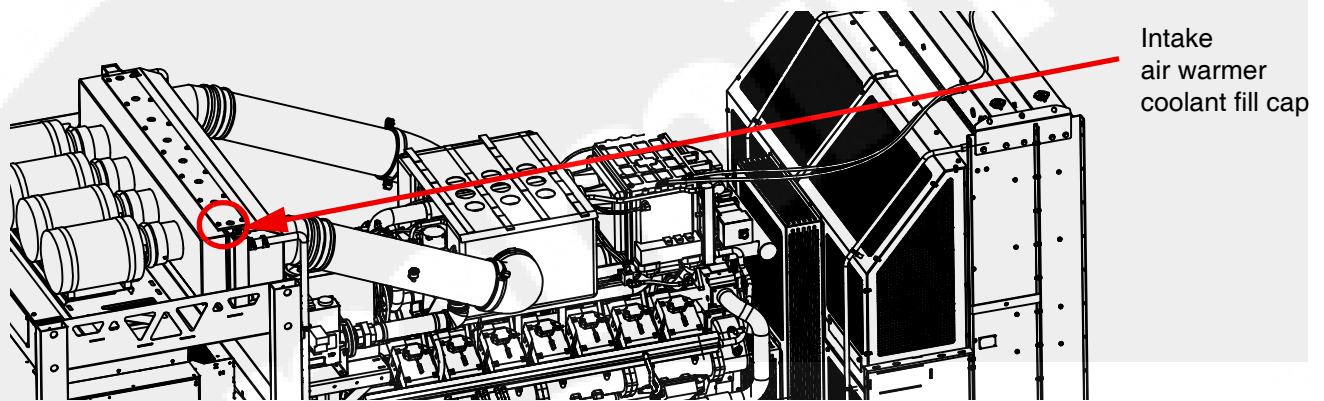

Figure 7-10 Intake air warmer coolant fill cap (GenSet right side)
2. Twist the intake air warmer fill cap counter-clockwise and open the intake air warmer fill port (see Figure 7-10).